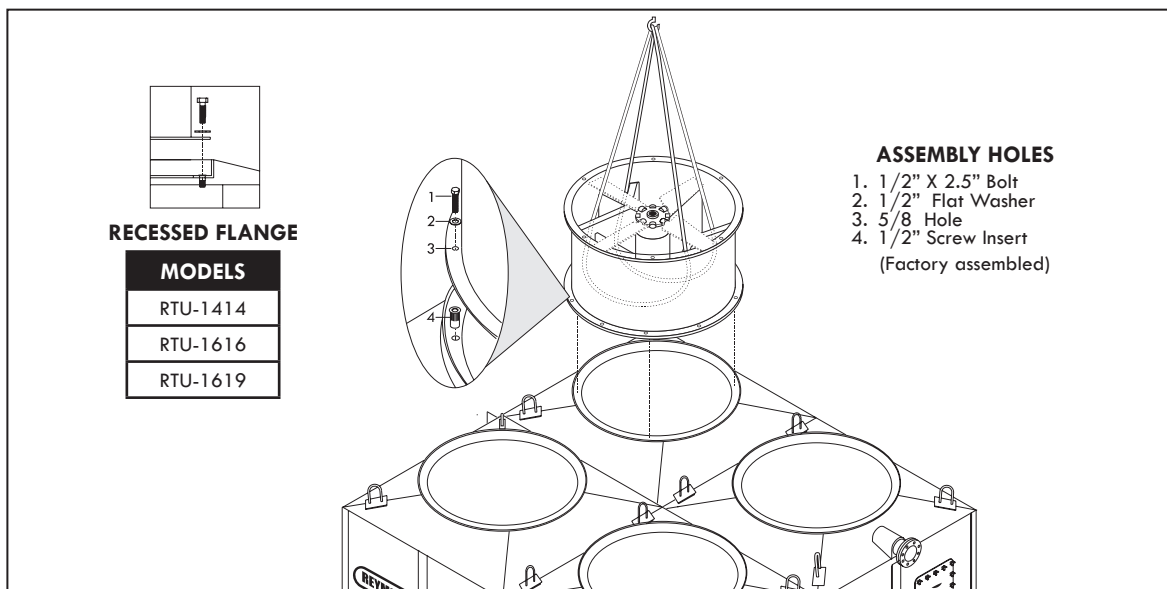

Figure A-45: Fan Duct installation for a Quadruple Fan Tower.
- J. Then cradle/straddle the fan support with the straps (as shown in Figure A-45) so you can lift the fan duct with a crane and assemble it.